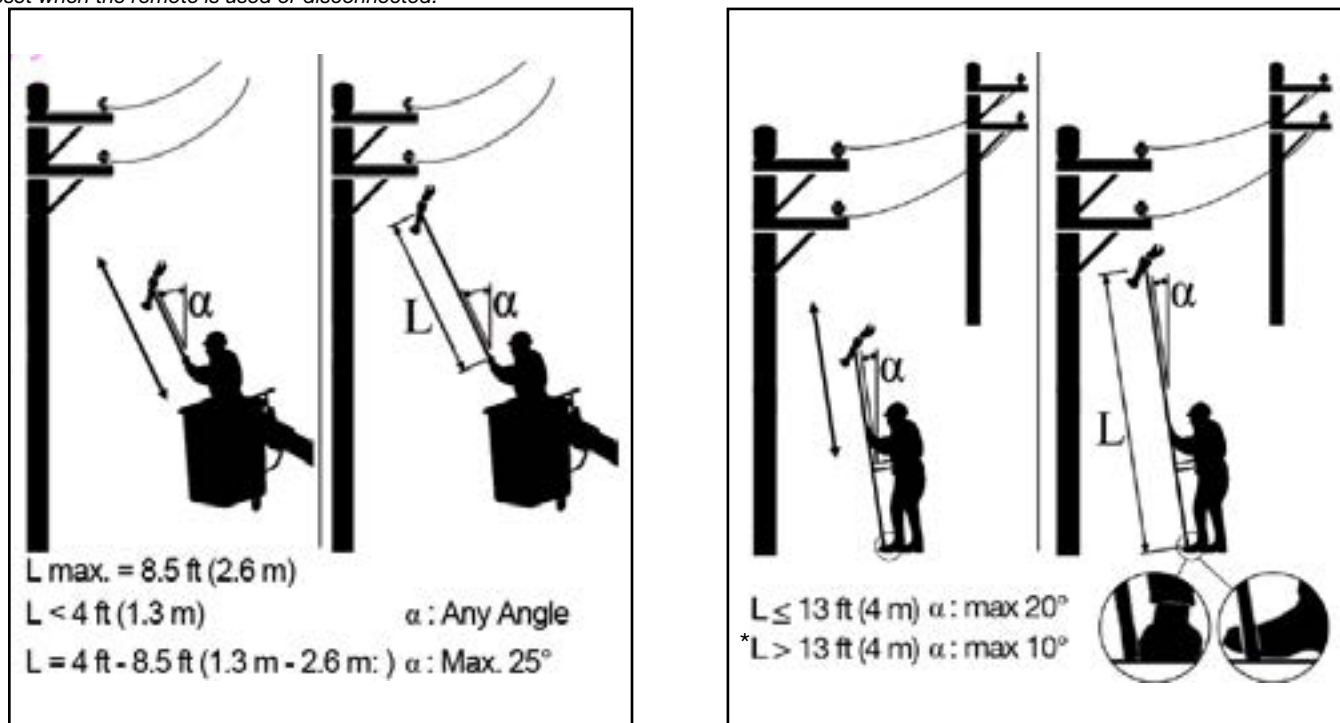

Figure 16
2. Hold the hot stick with both hands and brace the end of the hot stick with your foot or the basket wall to reduce the risk of twisting or losing control of the tool. Extend the hot stick and keep the hot stick angled slightly in front of you (Fig. 16).